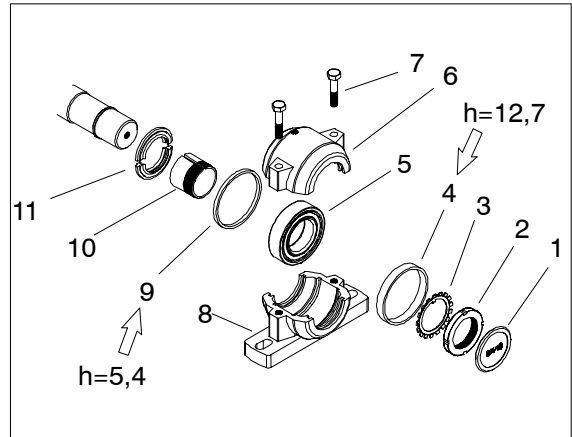

Fig. 28. Bearing, feeder side.
2. Remove the fastening bolts M10 (7) and the upper bearing housings (6).
5. Bend the claw of the securing ring (3) out from the notch on the axle nut and open the axle nut.
6. Remove the axle nut, securing ring, spacer ring (4), bearing (5), spacer ring (9), and tightening cone (10).
7. Install the tightening cone, spacer ring (9), and bearing on the disk shaft. Note the thickness of the spacer ring (9) – see Fig. 28.
11. Bend one claw of the securing ring (3) into a notch on the axle nut.
12. Install the other half of the dust cover and end plate on the bearing housing. Install the spacer ring (4) on the shaft.